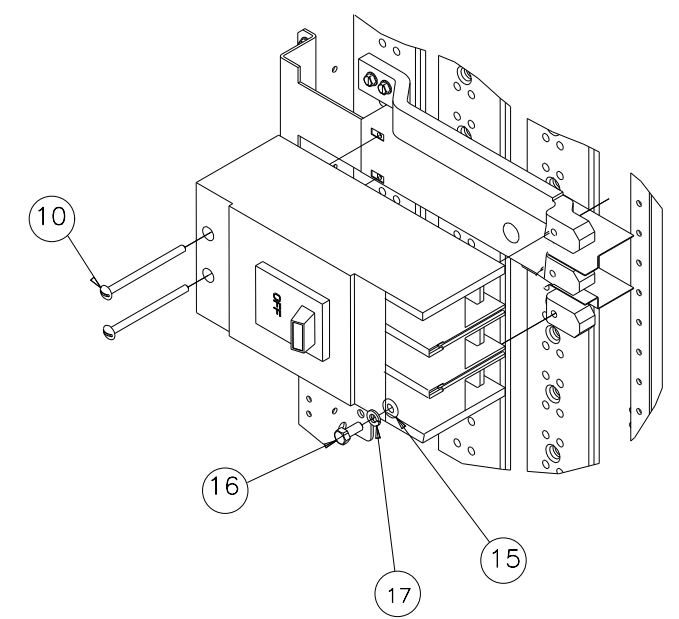

Figure 6
8. Reference fig. 6 - Installing the breaker. Insert three 5/16-18 X 3/4" hex head bolts (item 16) along with three lock washers (item 17) and three flat washers (item 15) through each of the three contacts on the line side of the breaker and into the tapped hole at the end of the three phase connectors. Insert two 1/4-20 X 3-3/4" Screws (item 10) into the two holes toward the other end of the Breaker and into the two 0.228" diameter holes in the Breaker Mounting Bracket (item 8) and tighten securely. Torque the 5/16-18 hardware as specified on the rear of the deadfront.